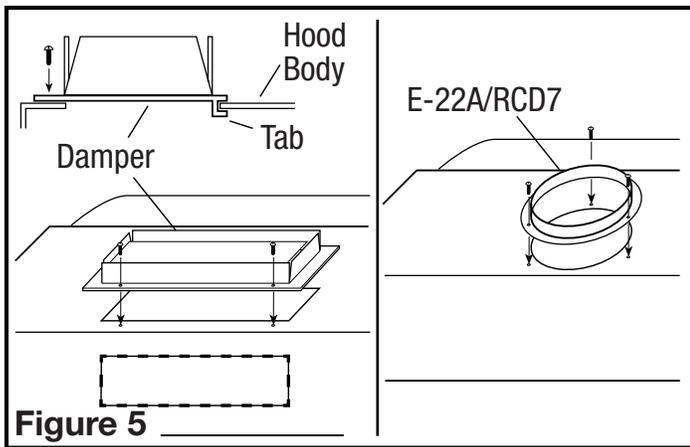

Figure 5
3. For 3-1/4" x 10" vertical or horizontal ducting, install the damper assembly to the hood by sliding the tabbed section of the damper under the hood body and securing with the two provided screws. For 7" round ducting, secure either a model E-22a or RDC7 Duct Collar (not included) to the hood with the three provided screws (**Figure 5**).